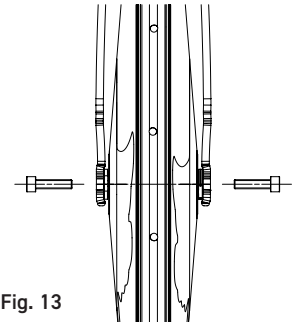

Fig. 13
- Partially tighten the two screws supplied with the wheel using a 5 mm Allen wrench (Fig. 13).